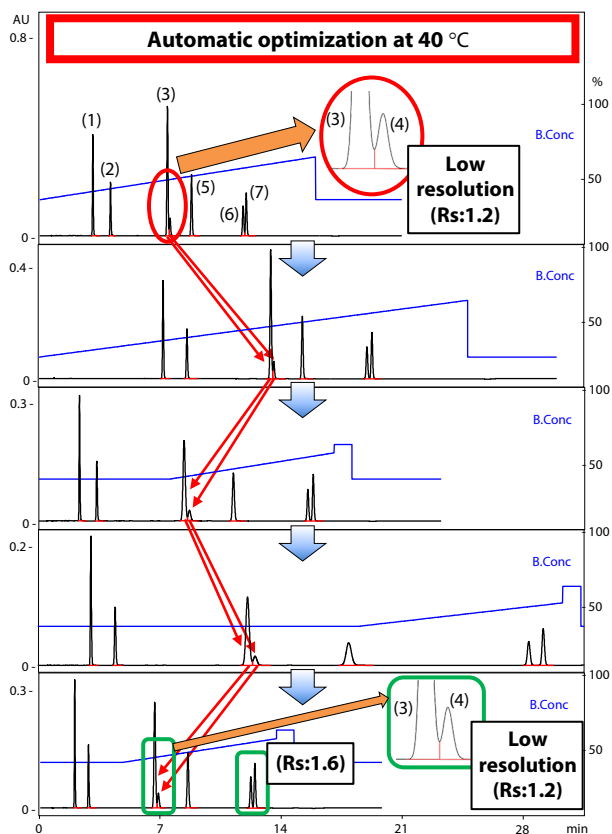
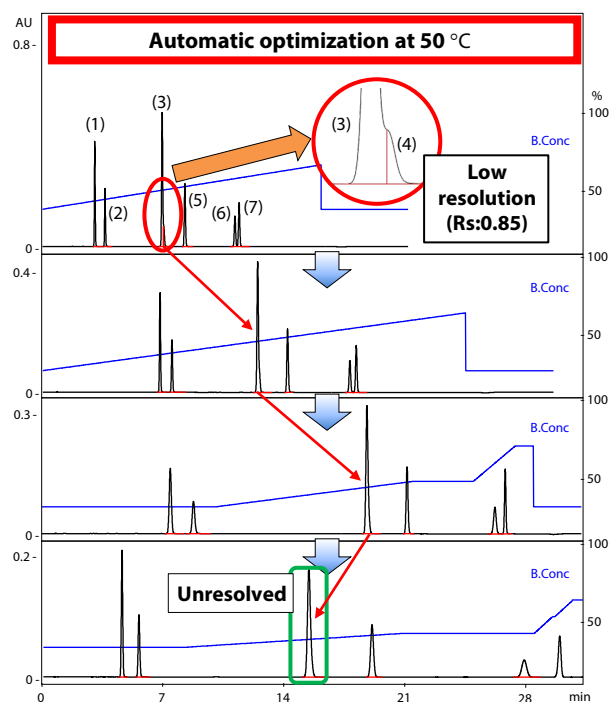

Fig. 4 Result of Automatic Optimization at 40 °C
Fig. 5 Result of Automatic Optimization at 50 °C
The results of automatic optimizations of gradient conditions at different column oven temperatures are shown in Fig. 3–5, respectively. Considering the minimal resolution of 1.5, peaks (6) and (7) were not well separated in the initial analysis when the column oven temperature was 30 °C (red circle in Fig. 3). Similarly, peaks (3) and (4) were not well separated at column oven temperatures of 40 °C and 50 °C (red circles in Fig. 4 and Fig. 5). Following the initial analysis, the gradient conditions that met the resolution criteria were automatically explored using “improvement of gradient conditions by AI” and “analysis under improved conditions”. At 30 °C, the optimized gradient conditions successfully met the resolution criteria (green box in Fig. 3). However, at 40 °C and 50 °C, even with automatic optimization, peaks (3) and (4) failed to meet the resolution criteria. These results indicate that the optimal column oven temperature is 30 °C, as it achieves the minimal resolution of 1.5 for all peaks. As demonstrated, the automatic optimization of gradient conditions can be applied consecutively to multiple column oven temperatures, enabling users to identify suitable conditions that meet the criteria, regardless of their experience in chromatography.